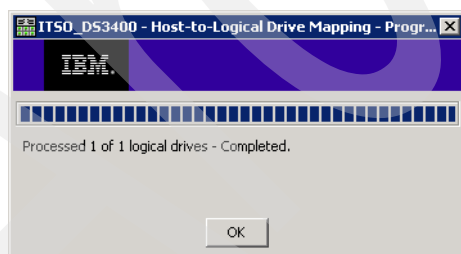

Figure 9-29 Storage Partitioning - complete
4. The wizard will perform the storage partitioning. You will see a completion message, as shown in Figure 9-29, when partitioning is complete. Click **OK** to exit. You will be prompted to create another host-to-logical drive mapping or to return to the main Configure tab.